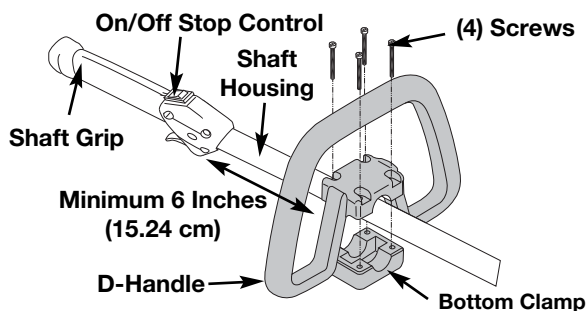

Fig. 1
1. Place D-handle the over the shaft housing and onto the bottom clamp (Fig. 1). Place it a minimum of 6 inches (15.24 cm) from the end of the shaft grip.